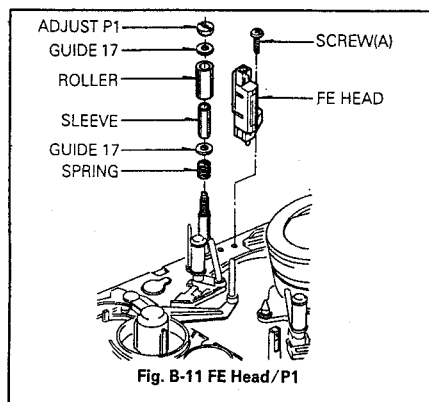

Fig. B-11 FE Head/P1
11. FE(Full Erase) Head Assembly(Fig. B-11)
- ① Do not touch the Video Head Tip with fingers or tools.
12. P1 Assembly(Fig. B-11)